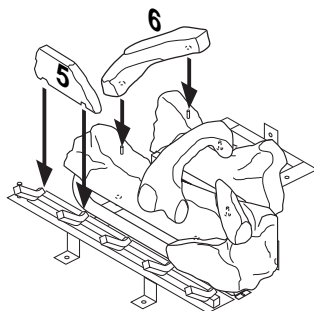

Figure 45 - Installing Logs No. 5 and No. 6
5. Place log #5 (base log) onto the front left part of the grate making sure the notches fit over the prongs of the grate). See Figure 45.
6. Place log #6 (left log) onto two pins on the left side of back and front log. See Figure 45.